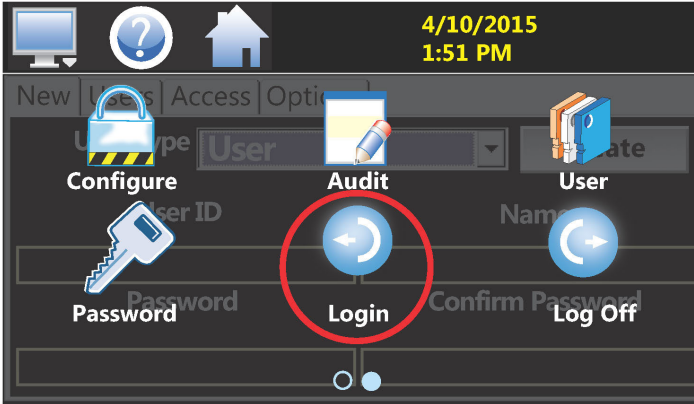

Fig. 27: Login Icon
1. To log in, select HOME - MONITOR (swipe screen left to right) - LOGIN icons (Fig. 27).
3. To log off, select HOME - MONITOR (swipe screen left to right) - LOG OFF icon (Fig. 27). A pop-up will ask if you want to log off. Select YES to log off, or NO to abort the log off.